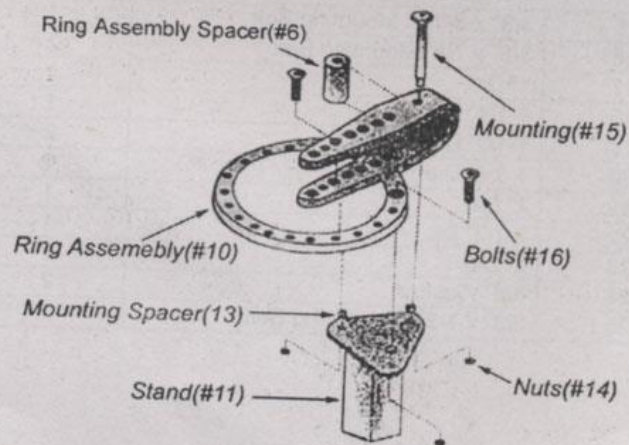

Figure 1 - Assembly
- Step 2: Place the three mounting spacers(#13) over the three holes on the top of the STAND as shown in Figure 1